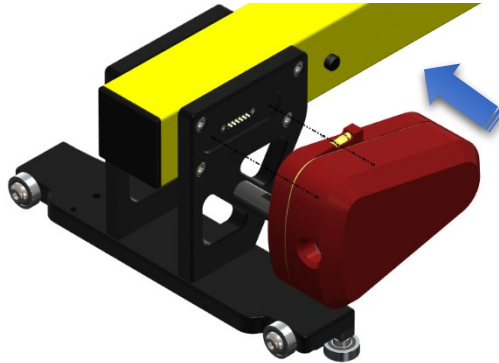

Figure 3 – REFOS unit is held on magnetically
3. The magnets will ensure the device is connected correctly in place if placed slowly. The REFOS unit may be fitted on either side of the gauge as required (see Figure 3).
1. Secure the REFOS laser unit supplied with the DLHS carefully to the connector slots on either foot of the gauge. The laser unit is powered by the DLHS batteries. (See Figure 3).